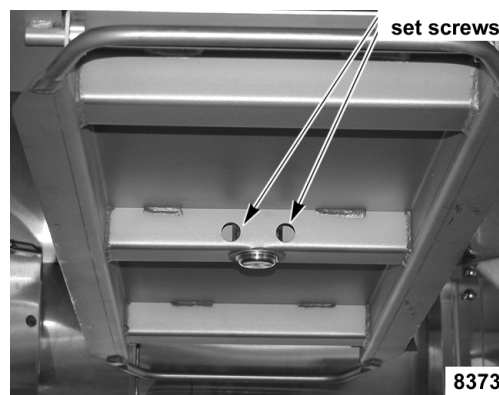

Fig. 4
2. Tighten all set screws (4) in carrier (Fig. 4).